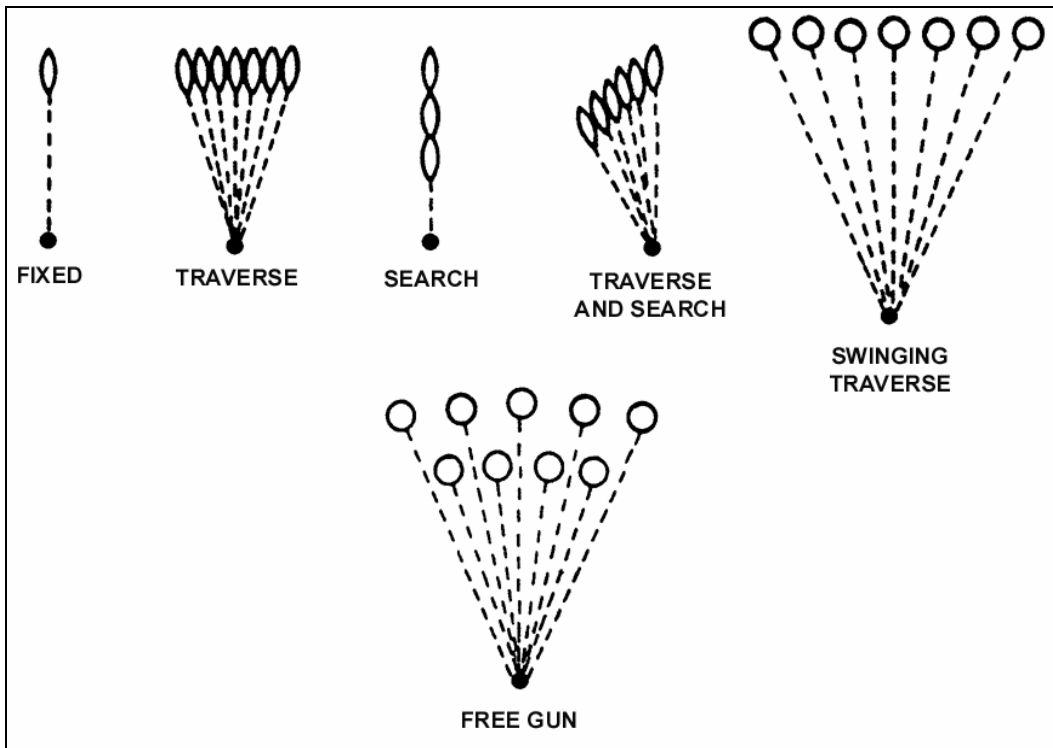

Figure 5-3. Classes of fire with respect to the MK 19.
c. **Respect to the MK 19.** Fire from the MK 19 may be conducted in six ways (Figure 5-3).